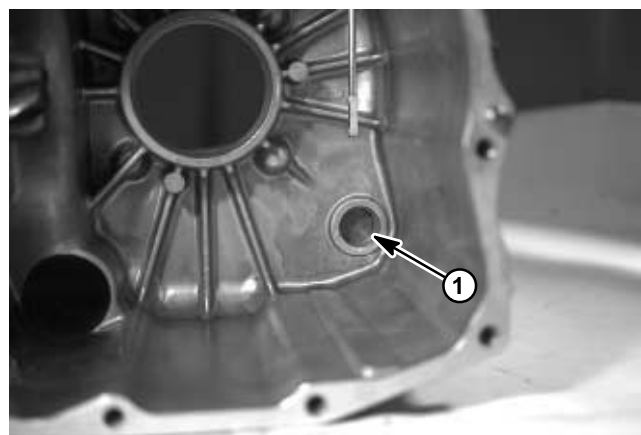

Figure 50
- C. Loosen capscrews (Fig. 50, Item 12) and remove keeper plates (Item 13).